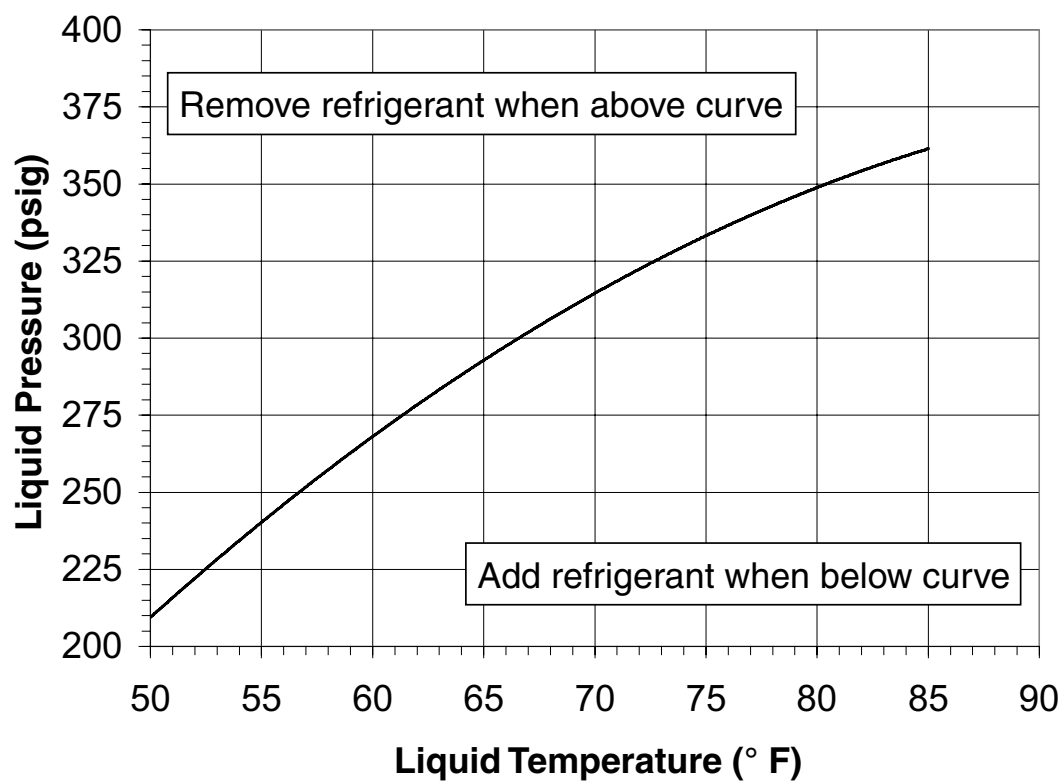

Figure 8. Heat Mode Charging Chart
- Figure 8, \(page 12\) is provided for quick reference when the unit is in heating mode and for the inspection of the liquid line pressures and temperatures.